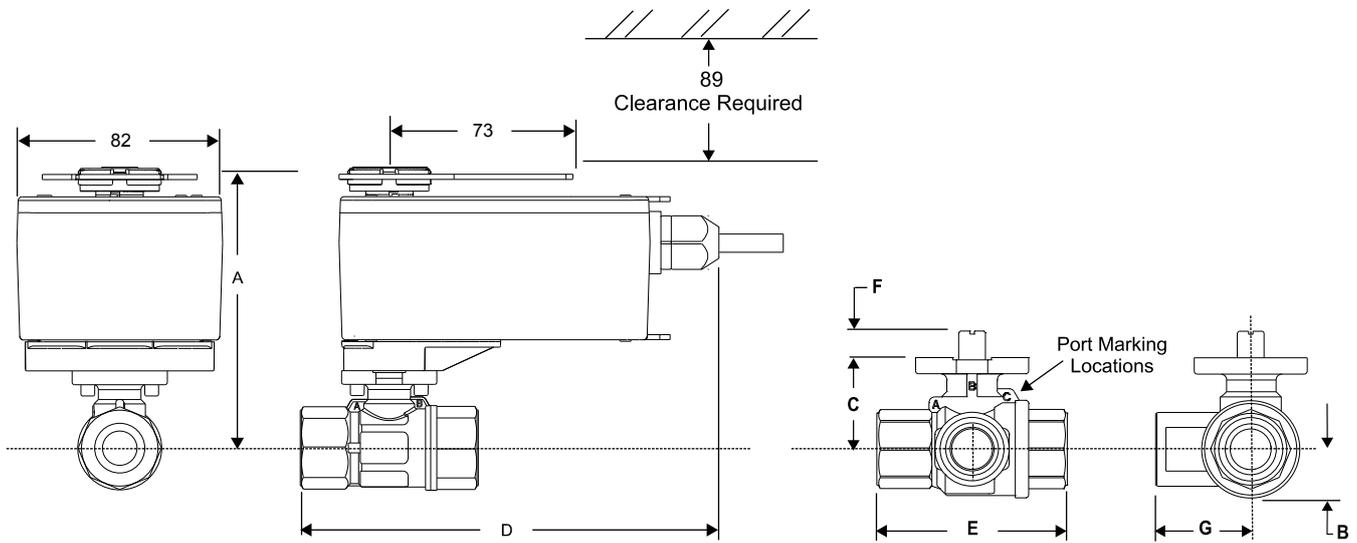

Figure 8: Spring Return BxFx.03(S)(Z) Actuated JV205 and JV305 Series Ball Valve Dimensions, in mm
See Table 1 and Figure 8 for the dimensions of the BxFx.03(S)(Z) Series Actuated Ball Valves.